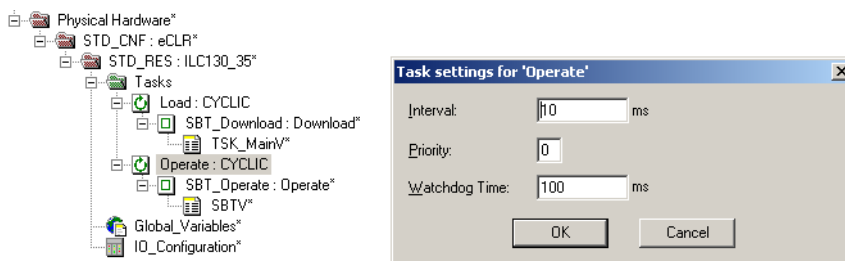

Figure A-10 The cycle time (interval) of the "Operate" task
- The cycle time (interval) of the "Operate" task (see Figure A-10).